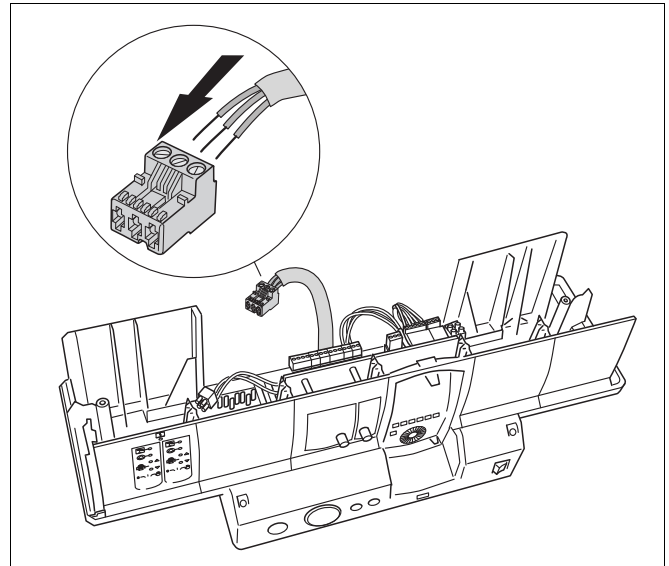

Fig. 6 Routing cables
- Strip the wires and firmly secure to the appropriate terminals (→ Fig. 6) in accordance with regulations.